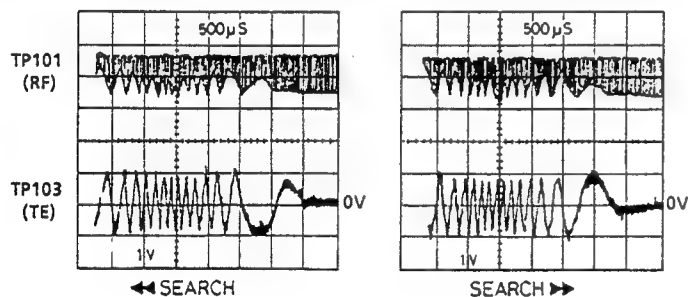

Fig.1
- ① Connect the oscilloscope to TP103(TE), TP104(E).
- ② Turn on the power of the unit.
- ③ Insert Test Disc and press the Play button.
- ④ Continuously press the forward(or reverse) search button.
- ⑤ Adjust SVR11 so that the waveform of TP103(TE) is vertically symmetrical relative to DC 0V level. (Refer to fig.1.